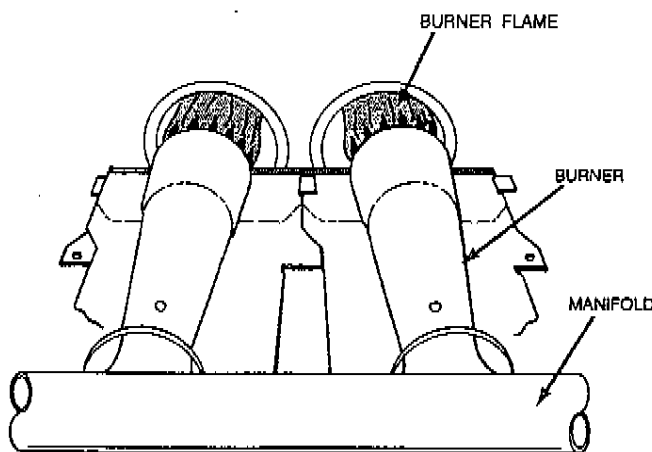

Fig. 14—Burner Flame
- (7.) When correct input is obtained, replace regulator seal caps. Main burner flame should be clear blue, almost transparent. (See Fig. 14.)